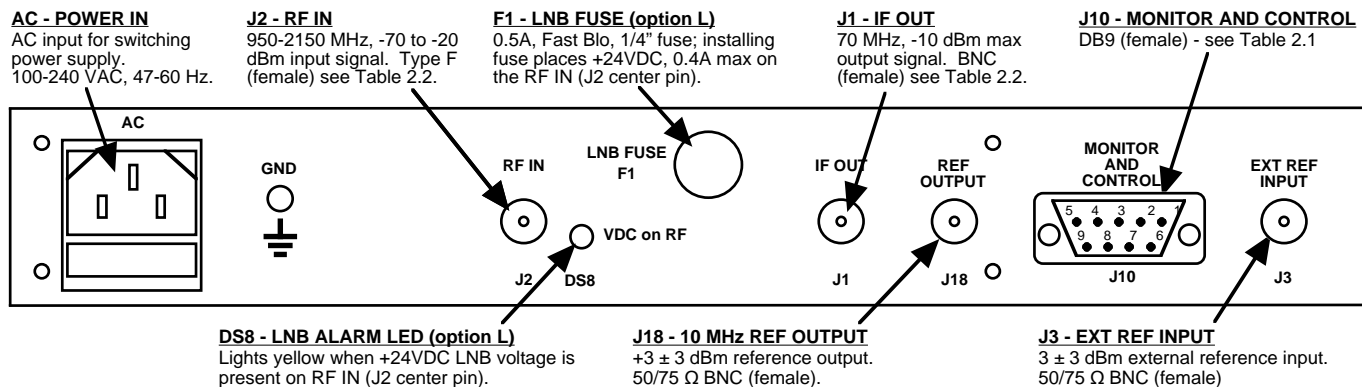

FIGURE 2.2 2016-22 Rear Panel I/Os
Figure 2.2 shows the input and output connectors on the rear panel.
1. Connect a -70 dBm to -20 dBm signal to RF IN, J2 (Figure 2.2)
3. Connect 100-240 \pm 10% VAC, 47 - 63 Hz to AC on the back panel (Figure 2.2).
7. Option L ONLY - To insert LNB +24 VDC on the RF center pin install 0.5A fast blo fuse (included) in F1 and check that DS8 lights yellow (Figure 2.2)